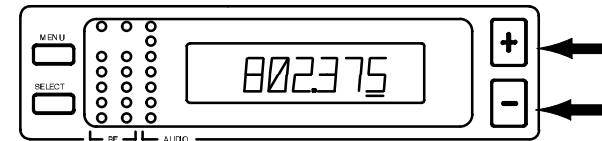

FIGURE 19
- Press the "+" or "-" button to increase or decrease the setting in incremental steps until the desired frequency is reached. See Figure 19.